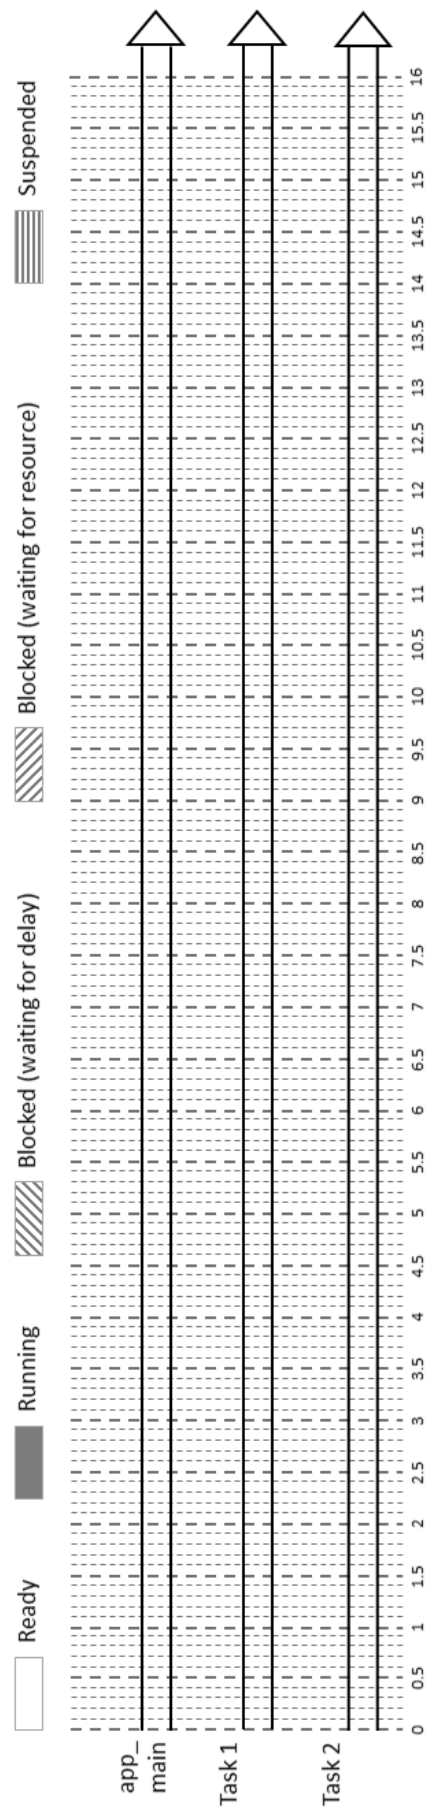

FIGURE 1.3 – Scheduling of 3 tasks with task delay.
18. Trace in the figure 1.3 the behavior of the *app_main()*, *Task 1* and *Task 2* tasks until 160 ticks.